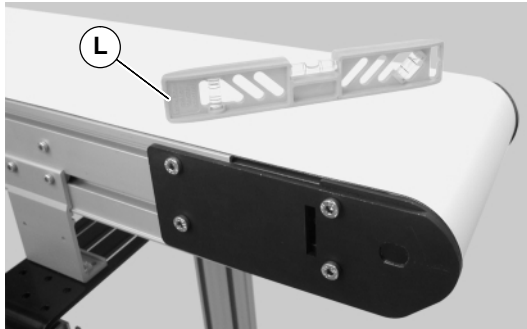

Figure 3
**NOTE:** Conveyor **MUST** be mounted straight, flat and level within confines of conveyor. Use a level (L of Figure 3) for setup.